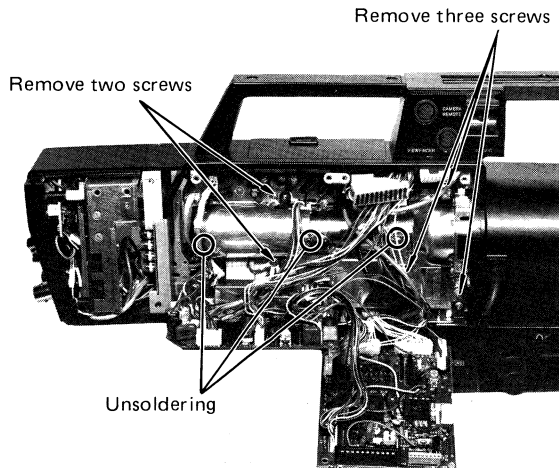

Fig. 4-2-13
- Remove five screws and unsolder three points holding the shield plates for coil holder and bias light, and remove them. (Fig. 4-2-13)